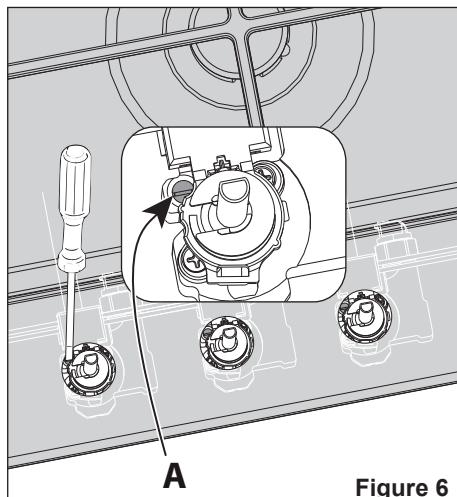

Figure 6
- Using a screwdriver turn screw "A" until the flame setting is correct (fig. 6).